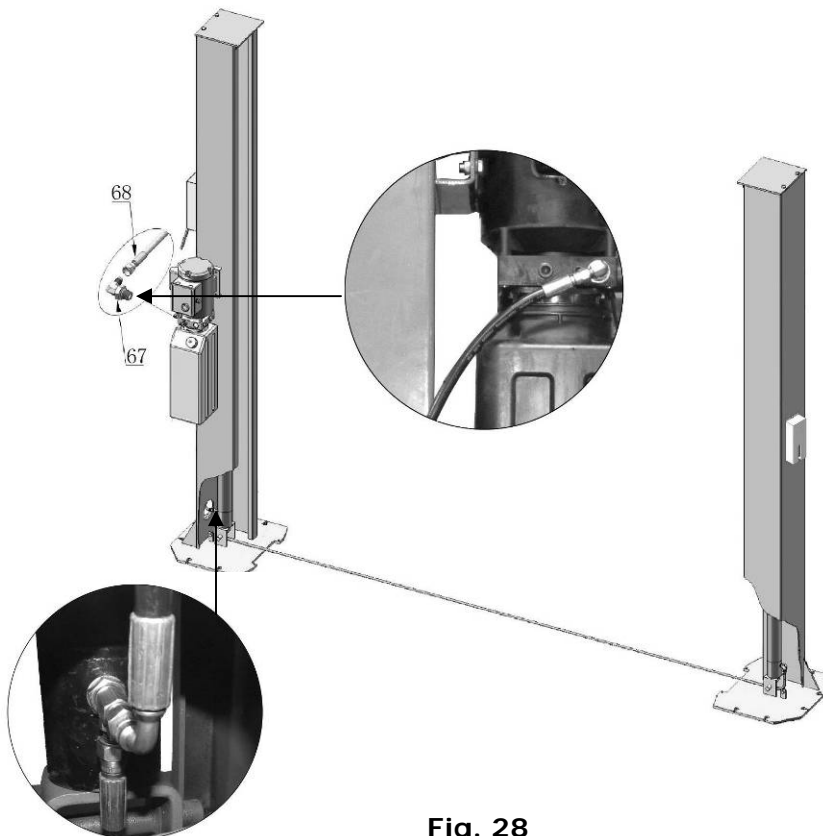

**Fig. 27**
**J. Oil Hose Assembly (See Fig. 27).**